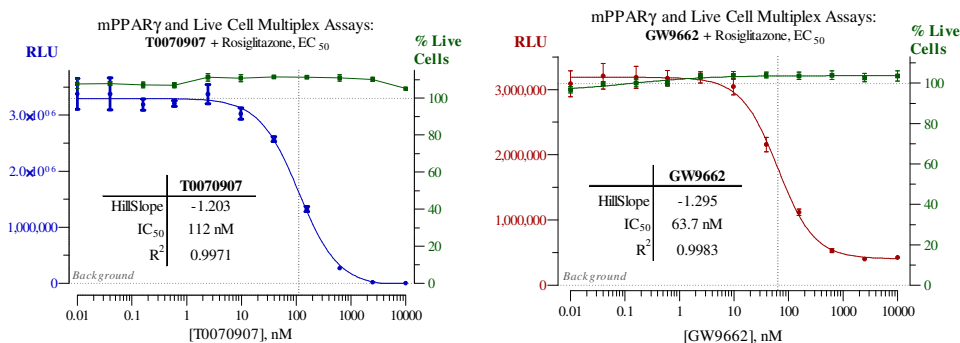

Figure 2b. Validation of Mouse/Rat PPAR γ antagonist dose-responses performed in combination with INDIGO's Live Cell Multiplex Assay.
- *Optional*: antagonist reference compound (refer to Fig 2b)